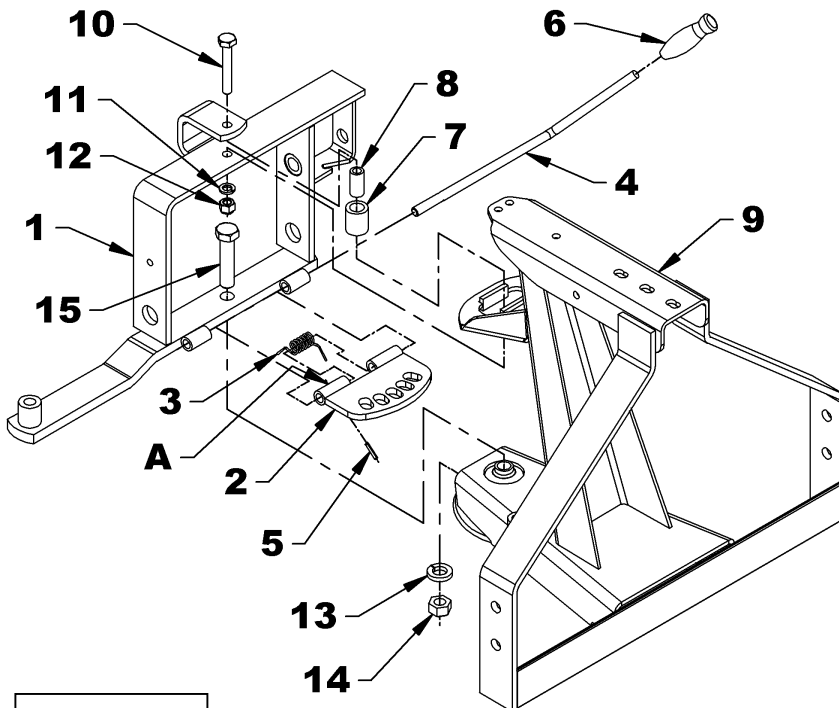

Figure 1
- Figure 1:** Install the plastic handle (item 6) on the handle (item 4).
- Figure 1:** Insert the 3/4" x 3 1/4" bolt (item 15) through the universal hitch socket (item 9) and the broom pivot (item 1) making sure to raise the adjustment plate (item 2). Secure the broom pivot with a 3/4" lockwasher and 3/4" NC stover nut (item 14-13) in the order illustrated.
- Figure 1:** Grease the outside of the spacer ring (item 8) and insert in the upper pivot bushing (item 7).
- Figure 1:** Place the bushing assembly in the universal hitch opening (item 9). Tip the broom pivot (item 1) forward till the holes line up with the bushing. Secure with a 1/2" x 3 1/4" hex. bolt (item 10), a 1/2" lockwasher (item 11) and a 1/2" NC nylon insert locknut (item 12).